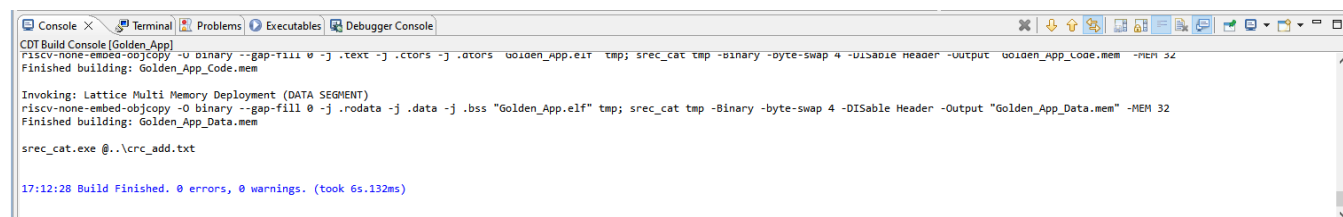

Figure A.31. Build Complete
- Wait for the process to complete. After completion, a message is printed in the console as shown in Figure A.31.